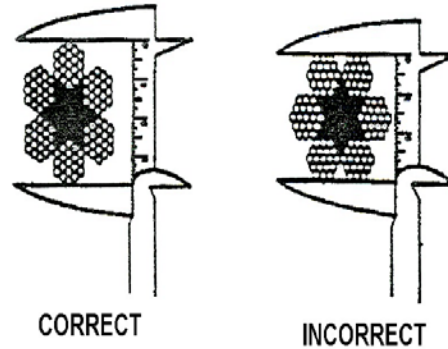

Figure 3-157
1. Measure the diameter of the wire rope using a slide caliper (see Figure 3-157).